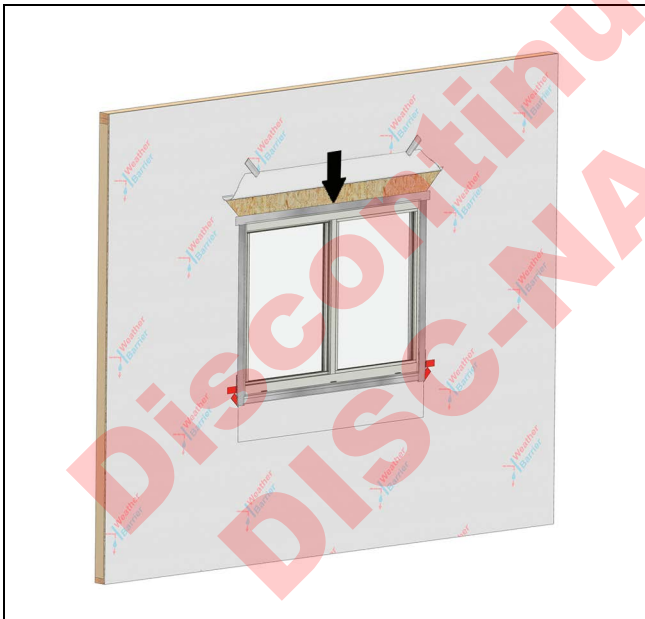

Figure 25
3. Install another layer of adhesive membrane lapping onto the head jamb of the unit and over the sheathing. The membrane flashing at the head jamb should extend and cover the flashing previously installed at the jamba. See Figure 25.